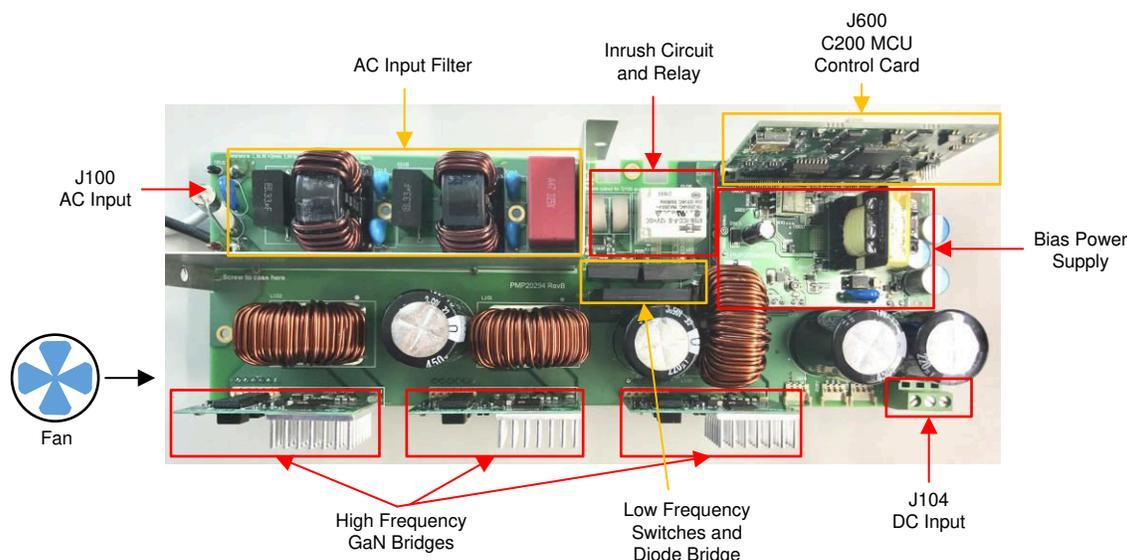

Figure 3-1. Board Overview
The design follows a HSEC control card concept, and any device for which HSEC control card is available from the C2000 MCU product family can be potentially used on this design. The key resources used for controlling the power stage on the MCU are listed in Table 3-1. Figure 3-1 shows the key power stage and connectors on the design board. Table 3-2 lists the key connectors and their functions. To get started:
9. Current and voltage probes can be connected to observe the input current, input voltage, and output voltages, as shown in Figure 3-1.